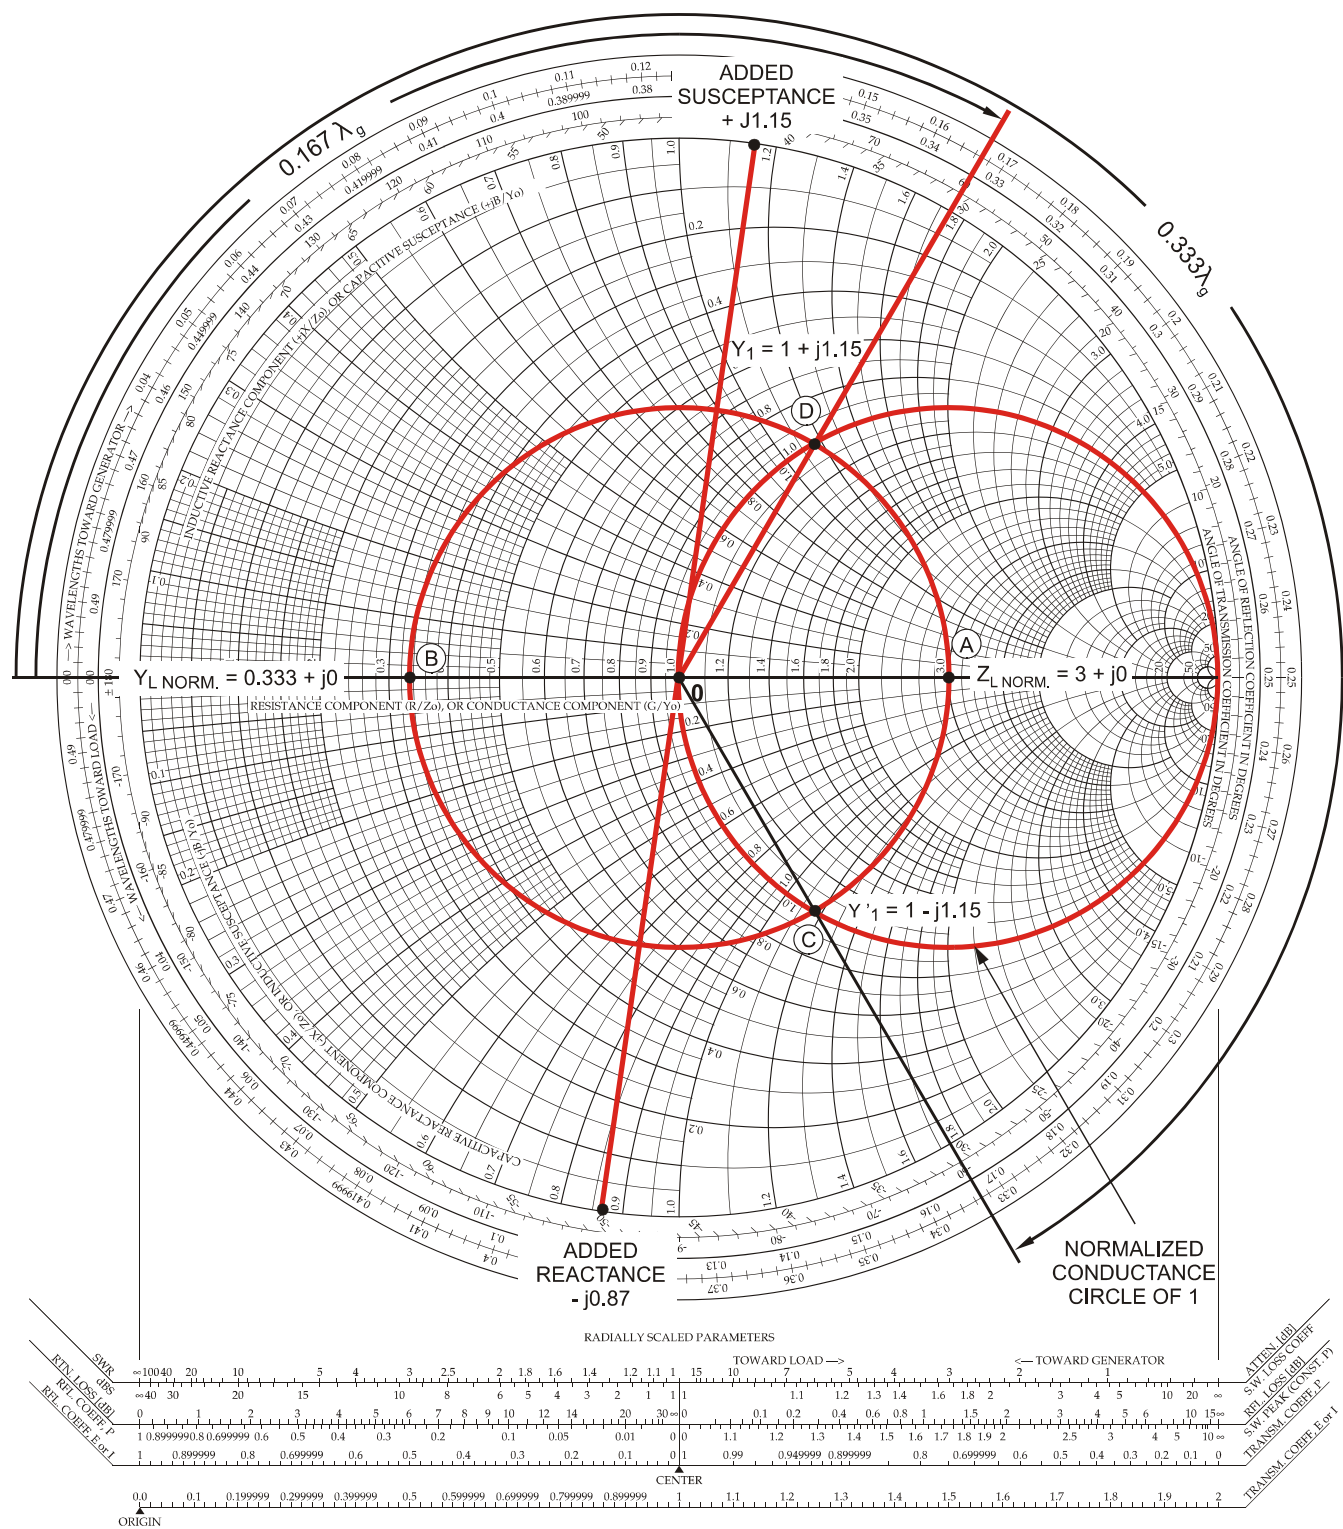

Figure 11-25. Example of impedance matching.
1. On the Smith Chart of Figure 11-25, plot the impedance of the load:  $Z_{L \text{ NORM.}} = 3 + j0$  (point A). Then plot the SWR circle corresponding to this impedance.